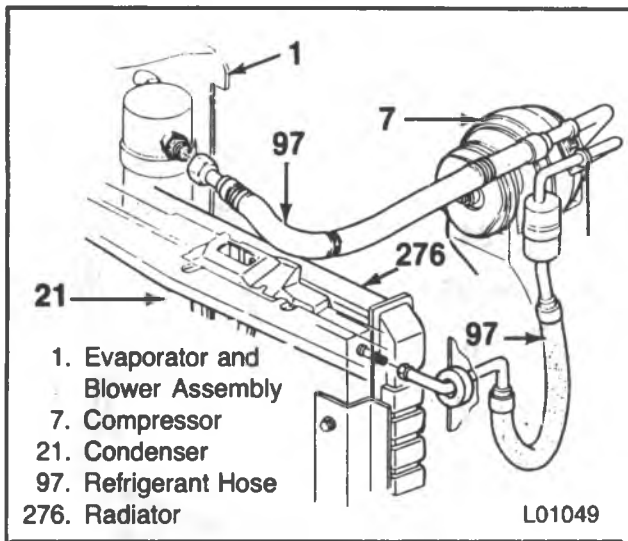

Figure 74 — 5.7L (Carbureted) Engine Refrigerant Hose Assembly
2. 5.7L (Carbureted) Engine (figure 74).